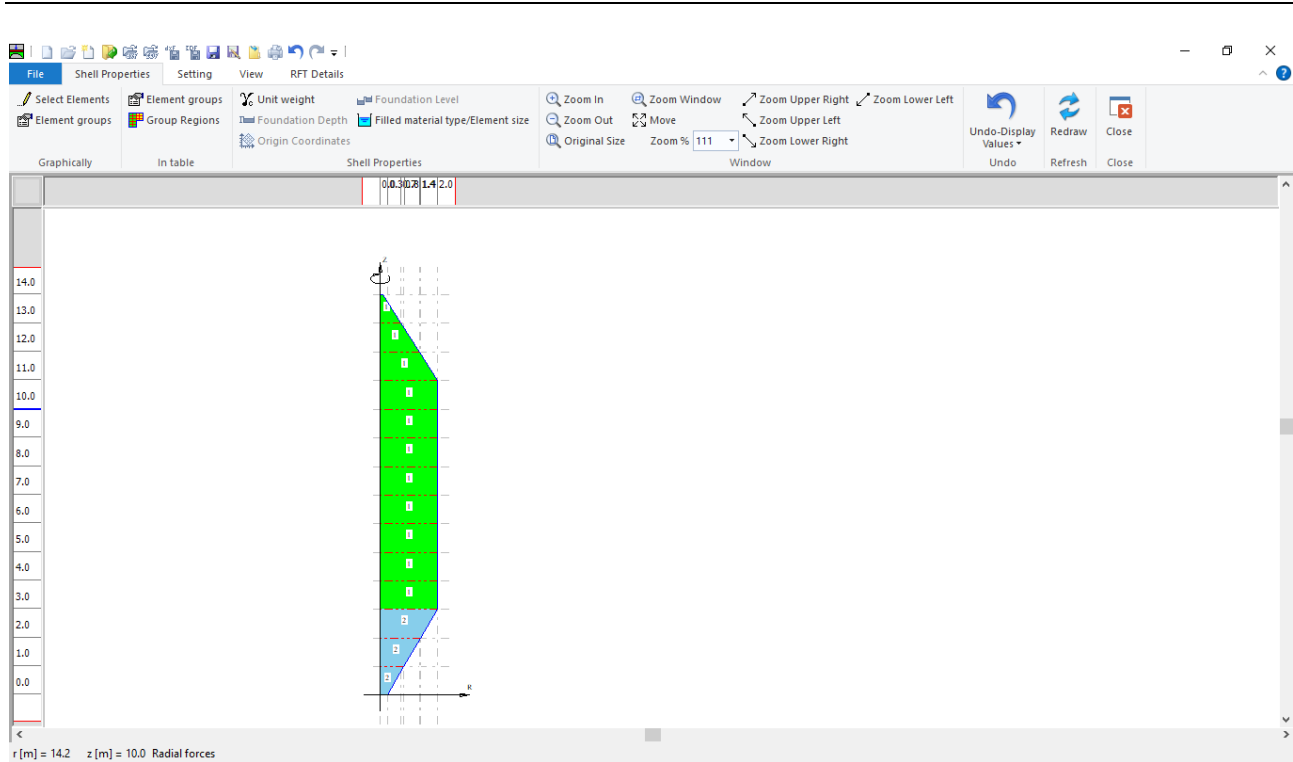

Figure 13.16 "Shell Properties" window after defining the silo properties
- Choose "Save" command from "File" menu in Figure 13.16 to save the shell properties
- Choose "Close" command from "File" menu in Figure 13.16 to close the "Shell properties" window and return to *ELPLA* main window